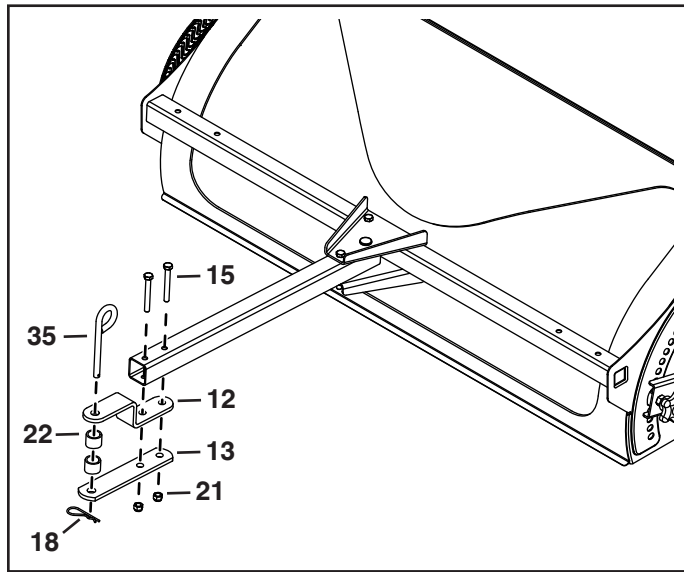

FIGURE 6
7. Attach the hitch bracket (12) and straight hitch bracket (13) to the drawbar using two 5/16" x 2-1/2" hex bolts (15) and 5/16" nylock nuts (21). See figure 6.
8. Assemble a 3/8" x 3" hitch pin (35) and two 3/4" spacers (22) to the hitch brackets. Secure them in place with a 3/32" hair cotter pin (18). See figure 6.